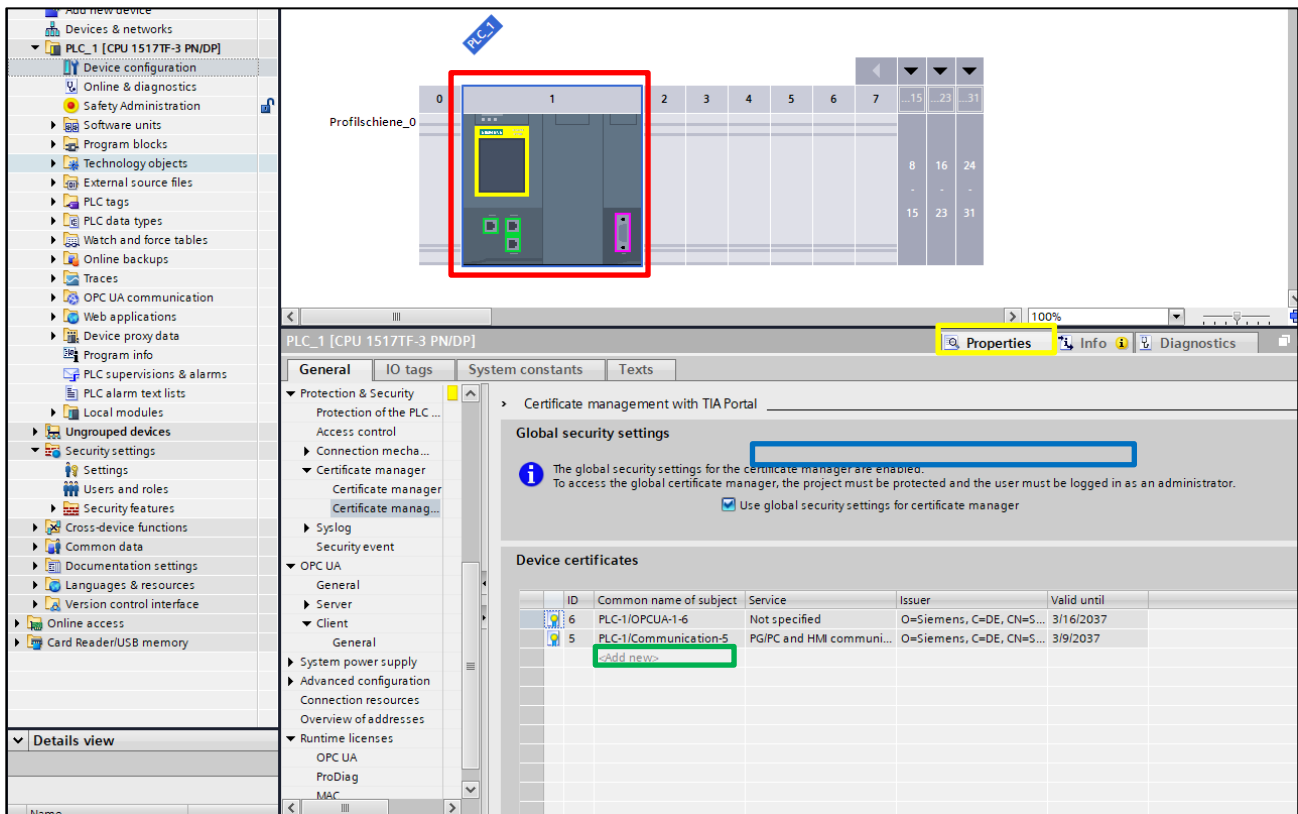

Figure 8: Create OPC UA Client certificate (1)
1. In the device configuration, click on your configured controller (Figure 8 red square).
2. Then click on the "Properties" tab (Figure 8 yellow square).
4. Activate "Use global security settings for the certificate manager" (Figure 8 blue square).
5. Click on "<Add new>" (Figure 8 green square).